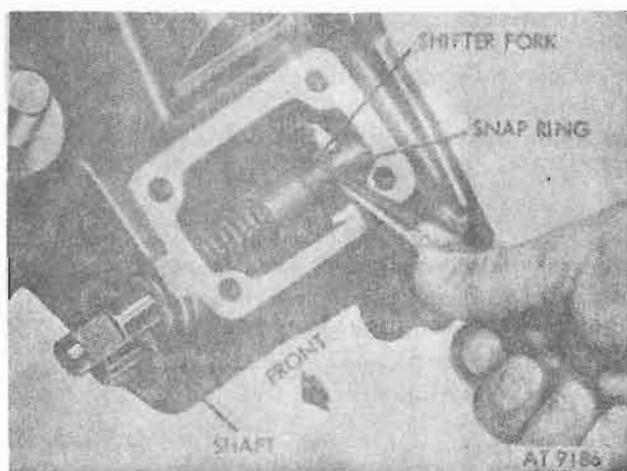

Figure 8-53. Shifter fork rear snapping.
c. Move shifter shaft forward and remove rear snapping (fig. 8-53).
f. Install clutch on shaft and then position shifter form in groove of clutch. Refer to figure 8-53.